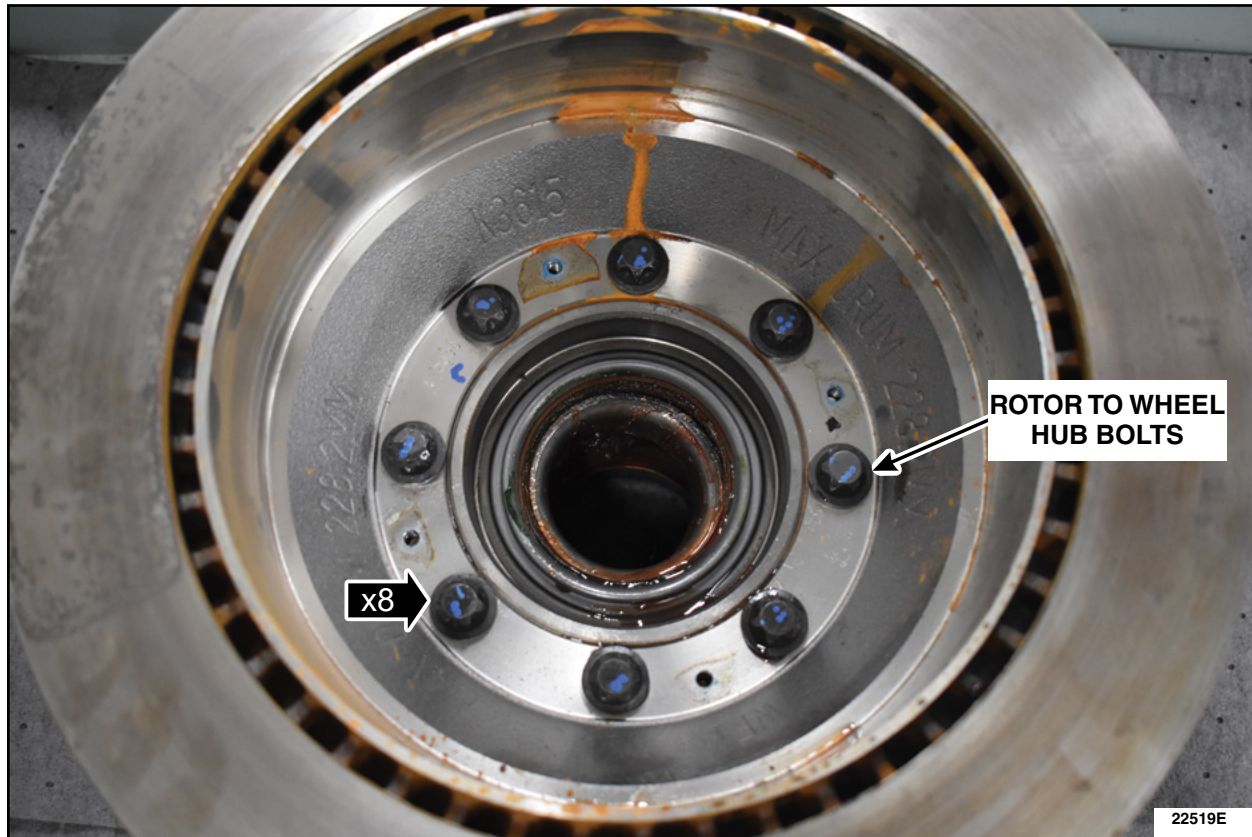

FIGURE 7
7. Using a torque wrench set at 86 lb. ft (117 Nm), check the torque of each rotor to wheel hub bolts (8 per side) on both sides of the vehicle. See Figure 7. Any movement on a bolt before the torque was reached does not pass inspection on that wheel hub and rotor assembly. Did either wheel hub and rotor assembly not pass inspection?